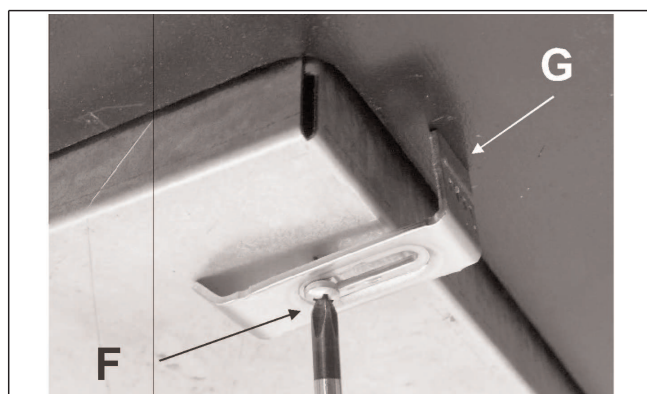

FIG. 6
- Position the hob in the hole in the unit and fasten it in place using the appropriate screws "F" and the fastening hooks "G" (fig. 6).